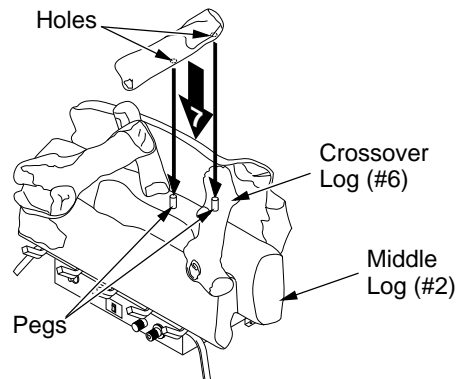

Figure 31 - Installing Crossover Log (#7) to Models CCL3930PR/PRA and CCL3930NR/NRA Only
7. **For CCL3930PR/NR only,** locate holes on the bottom of crossover log (#7). Slide onto the pegs located in crossover log (#6) and middle log (#2). See Figure 31.